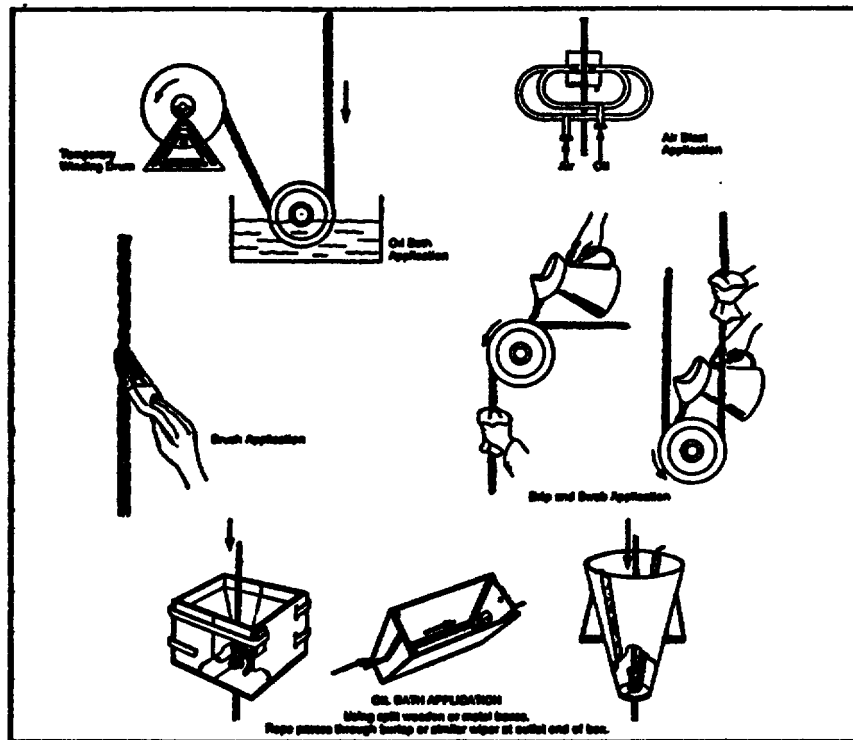

Fig. 2-10 Methods of lubricating wire rope
4. Care of Wire Rope. Wire rope must be properly lubricated to insure long life and safety. The internal parts of the wire move whenever the rope passes over a sheave or winds on a drum. Each wire rotates around its axis, and all wires minutely slide by each other. Internal wear can be minimized only by lubrication. Chain lubricant, Military specification MIL-G-18458 (ships) type II shall be used when available. If not available, use Lubra-plate or a good grade of engine oil. It must be free from acids and corrosive substances and be thin enough to remain as a coating on the outer surfaces. Wire rope is not necessarily lubricated when the outside appears greasy. Care must be taken to insure the lubricant penetrates into the core of the rope. The preferred and recommended method of lubricating wire rope is to use a mechanical lubricating device such as a Dynalube. (See **Figure 2-10**).